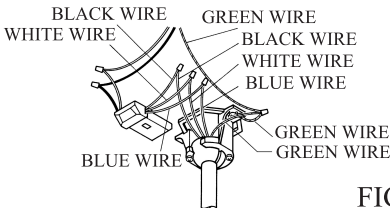

FIG.8
2. Connect the black wire from receiver to the black wire from fan with wire nut. Connect the white wire from receiver to the white wire from fan with wire nut. Connect the blue wire from receiver to the blue wire from fan with wire nut. Connect the green wire from ceiling, and green wire from hanger bracket with green wire from downrod ball with wire nut. (see Fig.8)